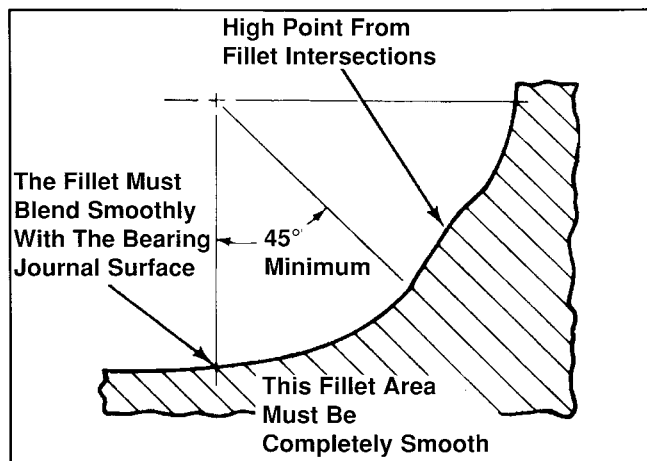

Figure 10-3. Crankpin Fillets.
**NOTE:** If the crankpin is reground, visually check to insure that the fillet blends smoothly with the crankpin surface. See Figure 10-3.